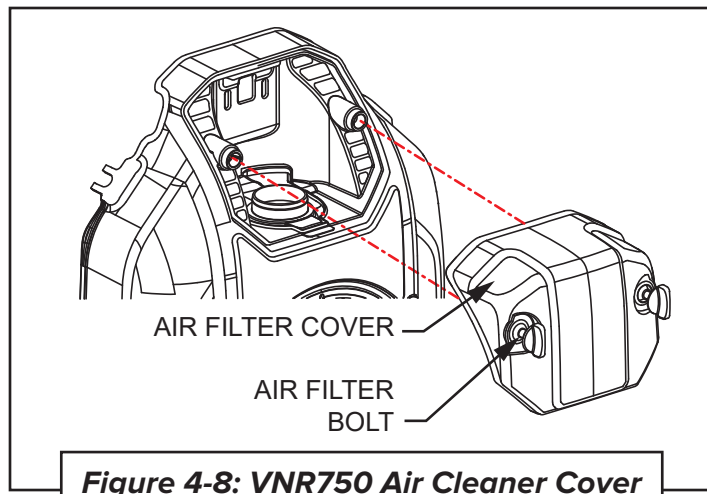

Figure 4-8: VNR750 Air Cleaner Cover
2. Loosen the two air filter bolts on the air cleaner cover and remove. (See **Figure 4-8: VNR750 Air Cleaner Cover**.)